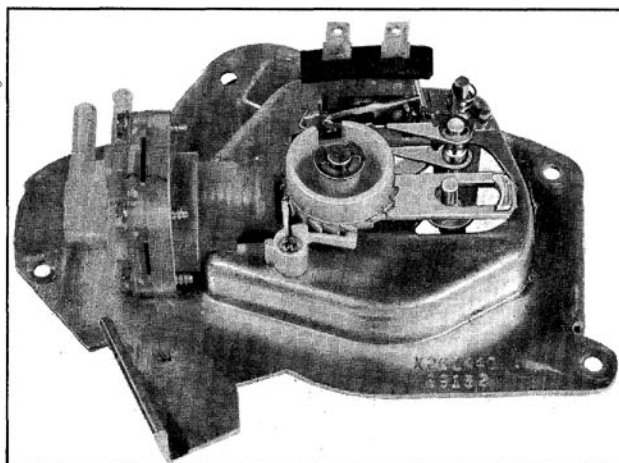

Fig. 13-162 Idling Position
2. Rotate cam until pump is in idling position. (Fig. 13-162)